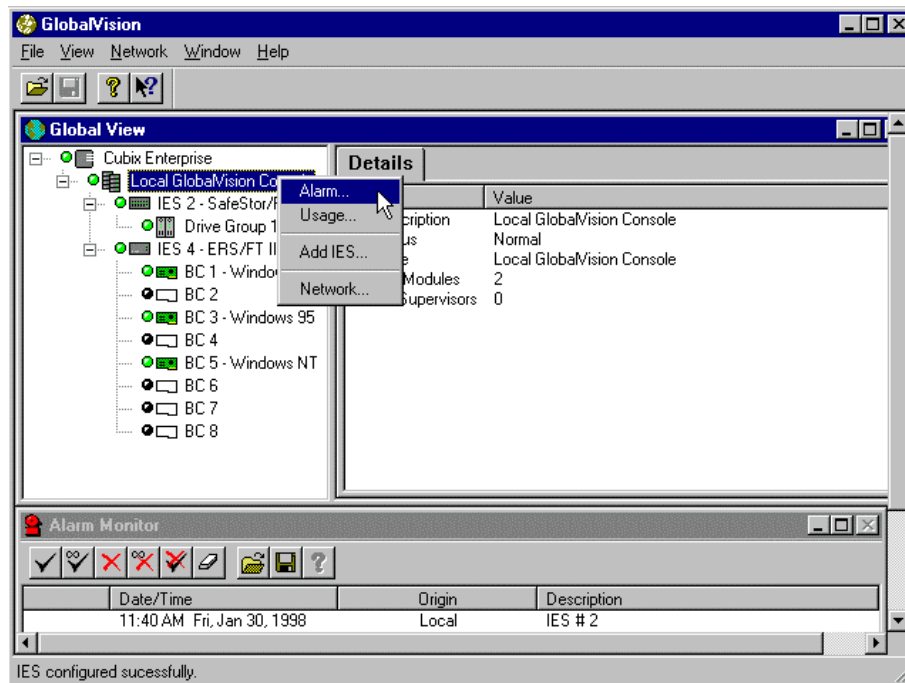

Figure 96 - Local GlobalVision Console controls
3. Click on the **Alarm** menu item. See Figure 96. The menu items available are **Generate Report**, **Clear Database**, **Clear Entire Database**, **Receive Alarms From**, and **Announce Options**.
1. Click on the **Generate Report** menu item under the **Alarm** control of the LOCAL GLOBALVISION CONSOLE level of the GlobalVision tree. See Figures 96 and 97.
1. Click on the **Clear Database** menu item under the **Alarm** control of the LOCAL GLOBALVISION CONSOLE level of the GlobalVision tree. See Figures 96 and 97.
1. Click on the **Clear Entire Database** menu item under the **Alarm** control of the LOCAL GLOBALVISION CONSOLE level of the GlobalVision tree. See Figures 96 and 97
1. Click on the **Announce Options** menu item under the **Alarm** control of the LOCAL GLOBALVISION CONSOLE level of the GlobalVision tree. See Figures 96 and 97.
2. Right-click on the description to reveal the **LOCAL GLOBALVISION CONSOLE** pull-down menu. The menu items available are **Alarm**, **Usage**, **Add IES**, and **Network**. See Figure 96.
1. Click on the **Generate Report** menu item under the **Usage** control of the **LOCAL GLOBALVISION CONSOLE** level of the GlobalVision tree. See Figures 96 and 105.